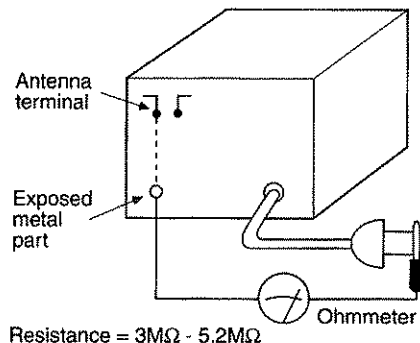
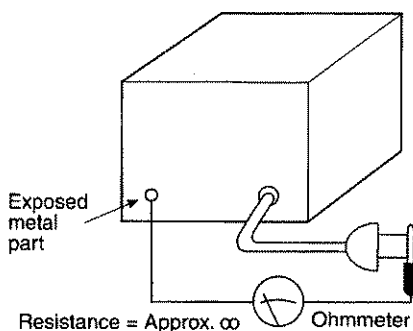

Fig. 1
Fig. 2
3. Measure the resistance value with ohmmeter between the jumper AC plug and each exposed metal cabinet part, such as screw heads, antenna, control shafts, handle brackets, etc. Equipment with antenna terminals should read between $3\text{M}\Omega$ and $5.2\text{M}\Omega$ to all exposed parts*. (Fig 1) Equipment without antenna terminals should read approximately infinity to all exposed parts. (Fig 2)